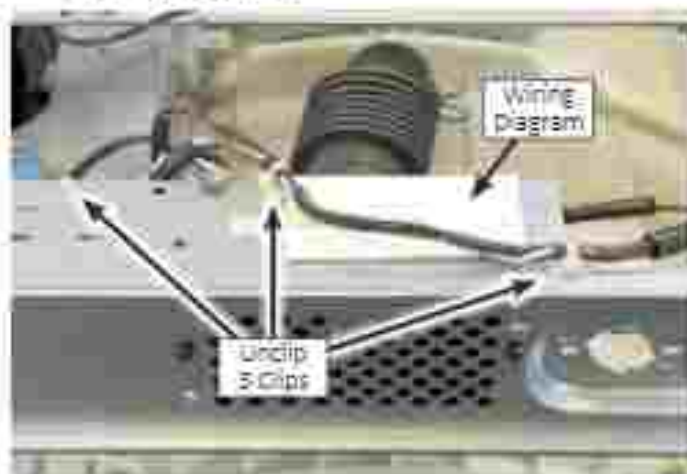

Figure 2
12. Using needle nose pliers, remove harness clips from rear bracket (see Figure 2).